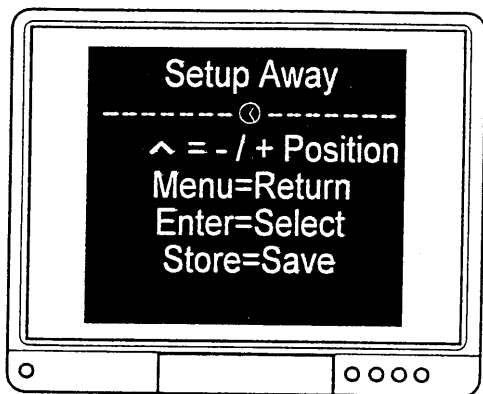

Figure 17.
- Step 2. Press 'Enter' on the keypad, the on-screen display will change to display figure 17 with one of the sections already highlighted.